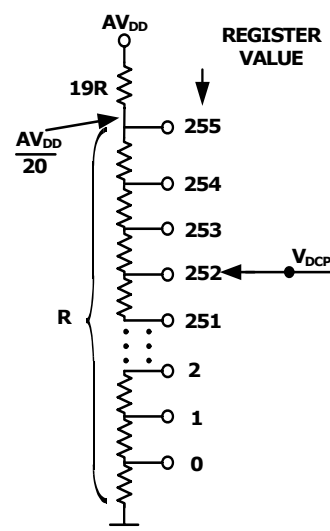
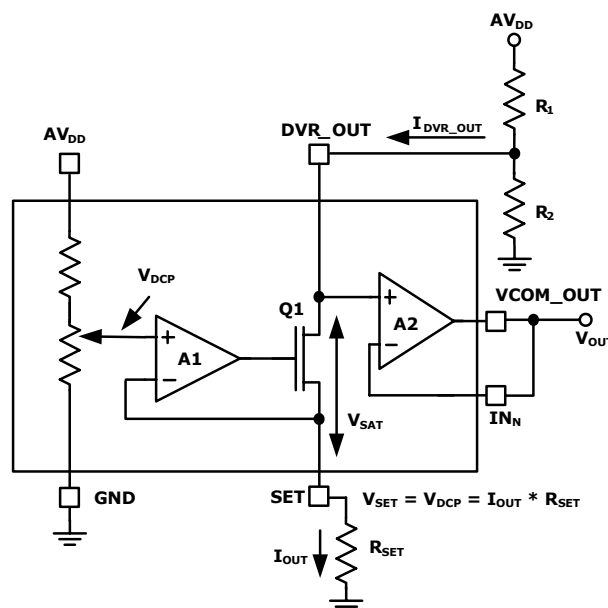

FIGURE 4. SIMPLIFIED SCHEMATIC OF DCP
FIGURE 5. CURRENT SINK CIRCUIT
**Electrical Specifications** Test Conditions: VDD = 3.3V, AVDD = 18V, RSET = 5k $\Omega$ , R1 = 10k $\Omega$ , R2 = 10k $\Omega$ , (See Figure 5), VCOM\_OUT pin connected to INN, unless otherwise specified. Typical values are at TA = +25°C. **Boldface limits apply over the operating temperature range, -40°C to +85°C.**
**Electrical Specifications** Test Conditions:  $V_{DD} = 3.3V$ ,  $AV_{DD} = 18V$ ,  $R_{SET} = 5k\Omega$ ,  $R_1 = 10k\Omega$ ,  $R_2 = 10k\Omega$ , (See Figure 5), VCOM\_OUT pin connected to INN, unless otherwise specified. Typical values are at  $T_A = +25^\circ C$ . **Boldface limits apply over the operating temperature range, -40°C to +85°C. (Continued)**
The ISL24212 uses a digitally controllable potentiometer (DCP), with 256 steps of resolution (see Figure 4) to change the current drawn at the DVR\_OUT pin, which then changes the voltage created by the  $R_1 - R_2$  resistor divider (see Figure 5). The DVR\_OUT voltage is then buffered by A2 to generate a buffered output voltage at the  $V_{COM\_OUT}$  pin, capable of directly driving the  $V_{COM}$  input of an LCD panel. The amount of current sunk is controlled by the setting of the DCP, which is recalled at power-up from the ISL24212's internal EEPROM. The EEPROM is typically programmed during panel manufacture. As noted in the "Electrical Specifications" on page 4, the ISL24212 requires a minimum  $AV_{DD}$  voltage of 10.8V for EEPROM programming, but will work in normal operation down to 4.5V after the EEPROM has been programmed, with no additional EEPROM writing.
The DCP controls the voltage that ultimately controls the SET current. Figure 4 shows the relationship between the register value and the DCP's tap position. Note that a register value of 0 selects the first step of the resistor string. The output voltage of the DCP is given in Equation 1:
Figure 5 shows the schematic of the DVR\_OUT current sink. The combination of amplifier A1, transistor Q1, and resistor  $R_{SET}$  forms a voltage-controlled current source, with the voltage determined by the DCP setting.
With amplifier A2 in the unity-gain configuration ( $V_{COM\_OUT}$  tied to  $IN_N$  as shown in Figure 5),  $V_{DVR\_OUT} = V_{COM\_OUT} = V_{COM}$ .